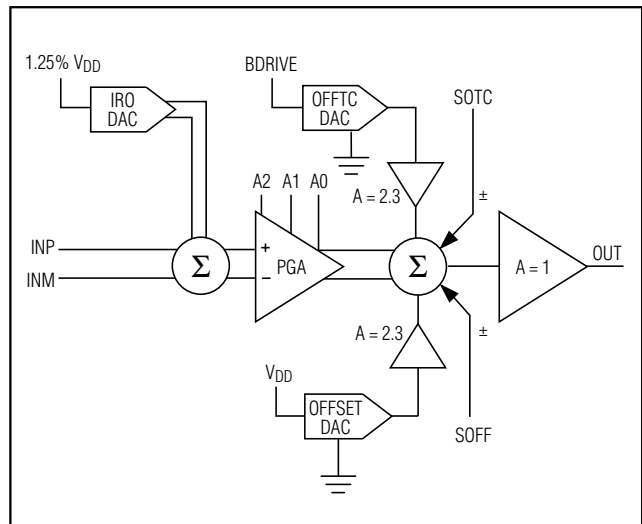

Figure 2. Signal-Path Block Diagram
junction to correct the error. Use the Offset TC DAC to adjust the amount of BDRIVE voltage that is added to the output summing junction (Figure 2).
- Differential to single-ended output buffer (Figure 2)